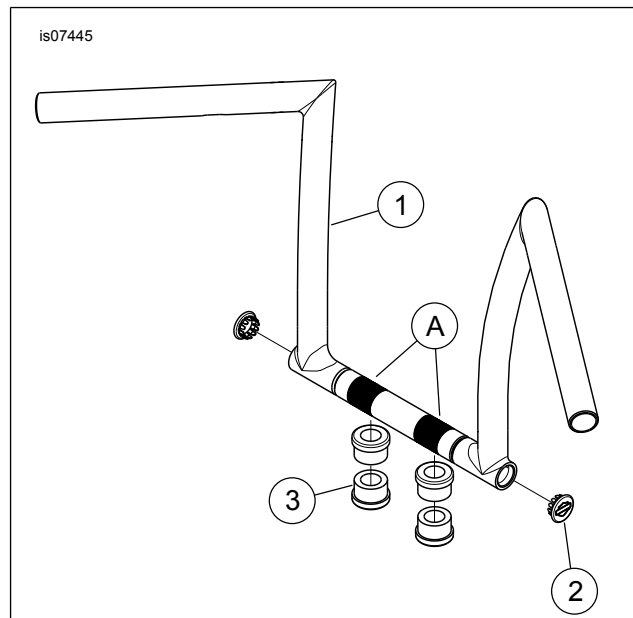

Figure 4. Service Parts: Chiseled Handlebar
1. See Figure 4. Install the handlebar (1) to the riser base, routing the wire bundles down through the upper fork bracket.
2. Seat the handlebar with the knurled areas (A) centered on the riser base. Install the riser clamp and clamp bolts, but do not fully tighten.
5. See Figure 4. Install hole plugs (2) into the handlebar. Make sure to align the logo.